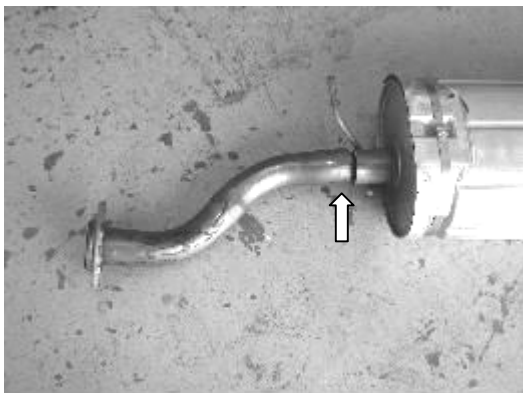

Figure 1
2. Cut the exhaust system just in front of the muffler as shown in figure 1.